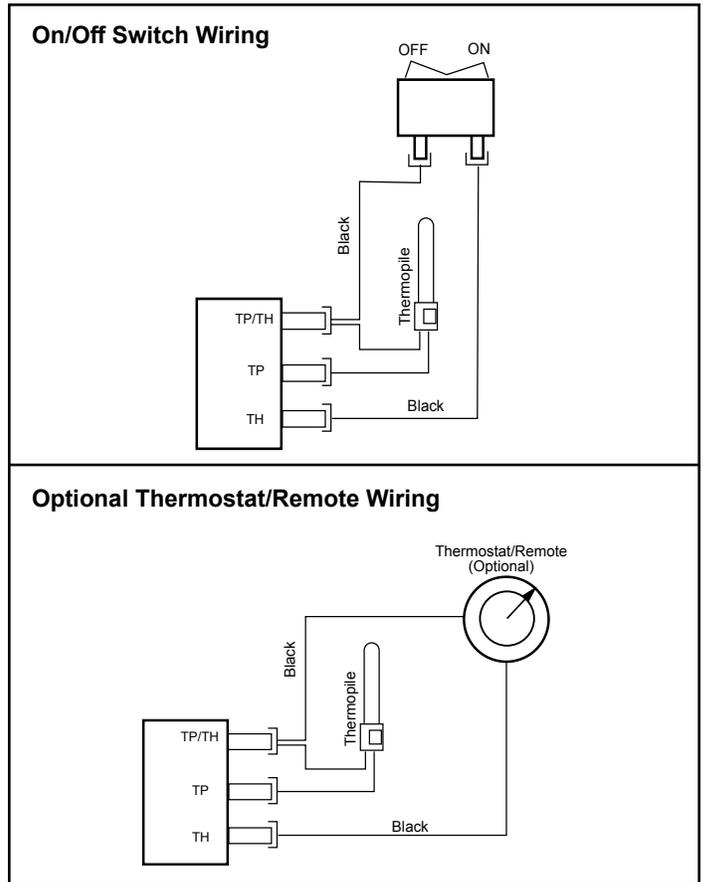

Figure 2.8 - ON/OFF switch and optional Thermostat/Remote wiring.
2. Connect the thermostat wires to the valve, Figure 2.8.